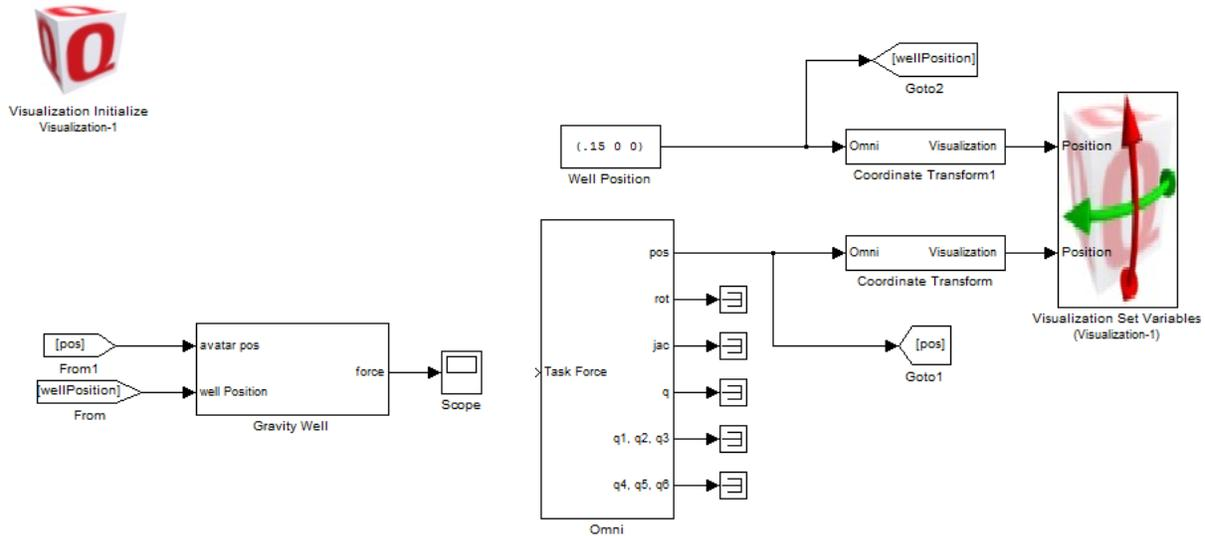

Figure 10.9: Gravity well model
3. Attach a scope to the output force. Your model should resemble Figure 10.9.